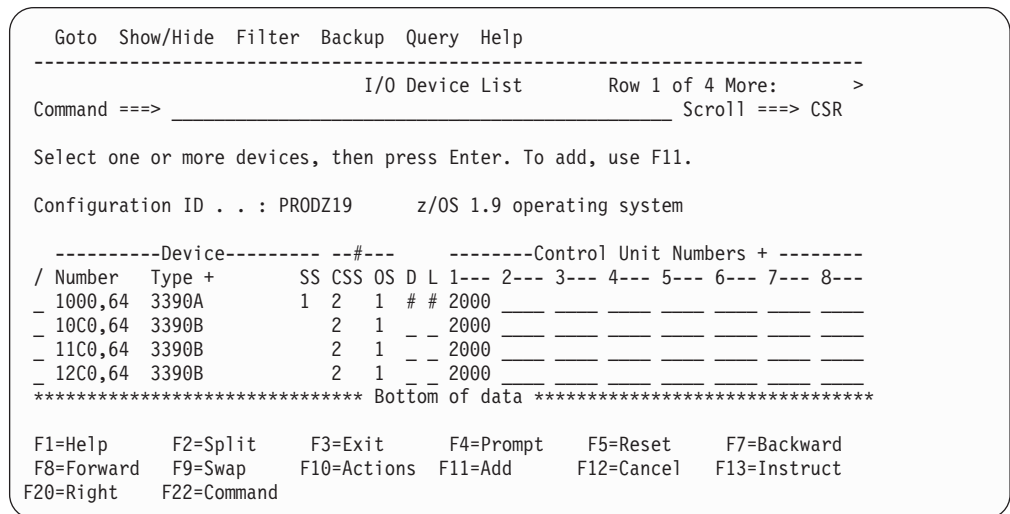

Figure 21. New I/O Device List after migration
- Review the new I/O Device List to verify the results. In the I/O device list started from the related OS configuration (Figure 21), note that the 3390A devices are defined to subchannel set 1. The previously occupied device number range 2000 - 20FF is now available for use on a new control unit.